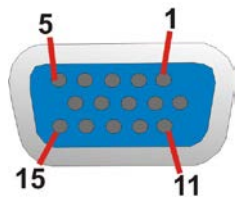

Figure 3-27: VGA Connector
- CN Pinouts:** See **Figure 3-27** and **Table 3-28**